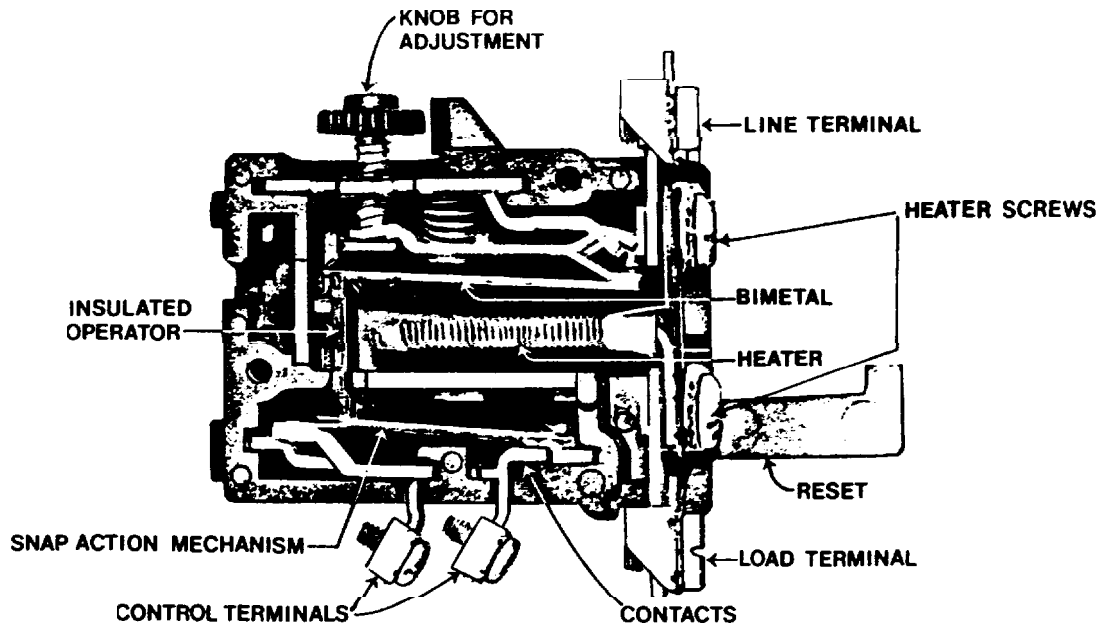

Figure 5-14. Typical terminal overload.
e. *Thermal overloads.* Thermal overload relays contained in starters provide more precise motor protection against overloads and momentary surges than fuses or circuit breakers. However, they do not provide short circuit protection. Relays themselves require little maintenance other than occasional testing to ensure that they are operational. Thermal overloads should be checked and resized whenever the motor is replaced to adequately protect the motor. The relays are controlled by heater elements (fig 5-14) which are in series with the motor current. The size of the heater must match the motor being protected. Be especially careful if the motor has been oversized to compensate for lower load current with lower rated heaters to cause tripping on loss of one phase (single phasing). It often happens that the wrong size heaters are installed. If the heater is too small, the overload relays act to take the motor off line unnecessarily. If too large, the motor will operate without proper protection and could be damaged from overload. If the relays frequently operate to take the motor off line, the heaters should be checked first. If the heaters are properly sized (about 120 percent of motor full load current) and there are no unusual temperature conditions, then check the motor current. If the motor current is higher than the nameplate rating by a margin sufficient to exceed the heater rating, then the relay is operating properly, and the motor is either overloaded or in fault, therefore, check the motor. Do not put in larger heaters. If however, the motor stops frequently even though the heaters are correctly